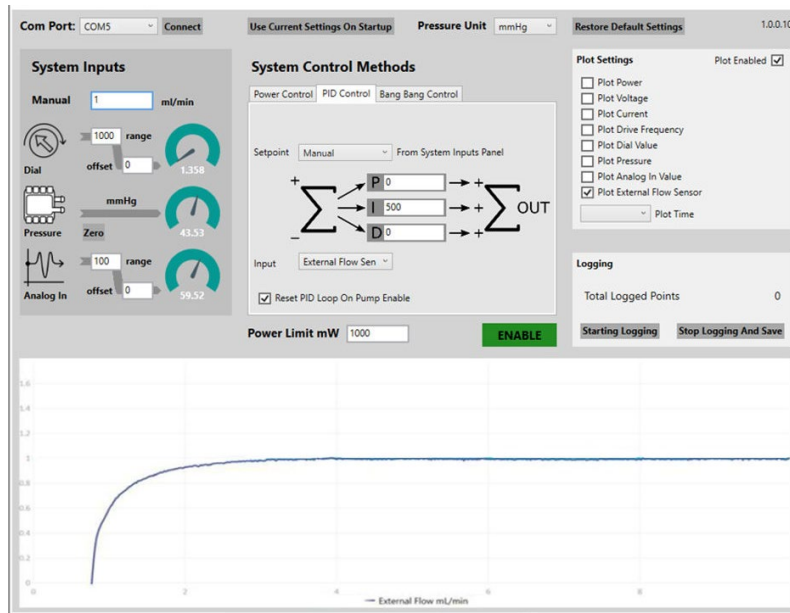

Figure 6. Disc Pump Control App
- Using the System Inputs panel, enter your desired flow rate into the Manual entry box, such as 1 ml/min as in the in Figure 6.